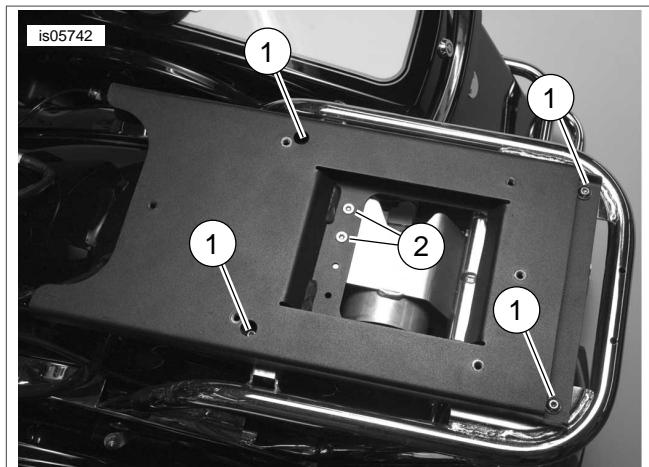

Figure 8. Installing Adapter Plate
1. See Figure 8. Locate air tank reservoir. Remove TORX® screws (2) from air tank bracket. Align adapter plate and install screws into air tank mounting bracket. Install four hex head screws (1) and washers in the adapter plate to the support rails. Tighten screws to 22 in-lbs (2.5 Nm).